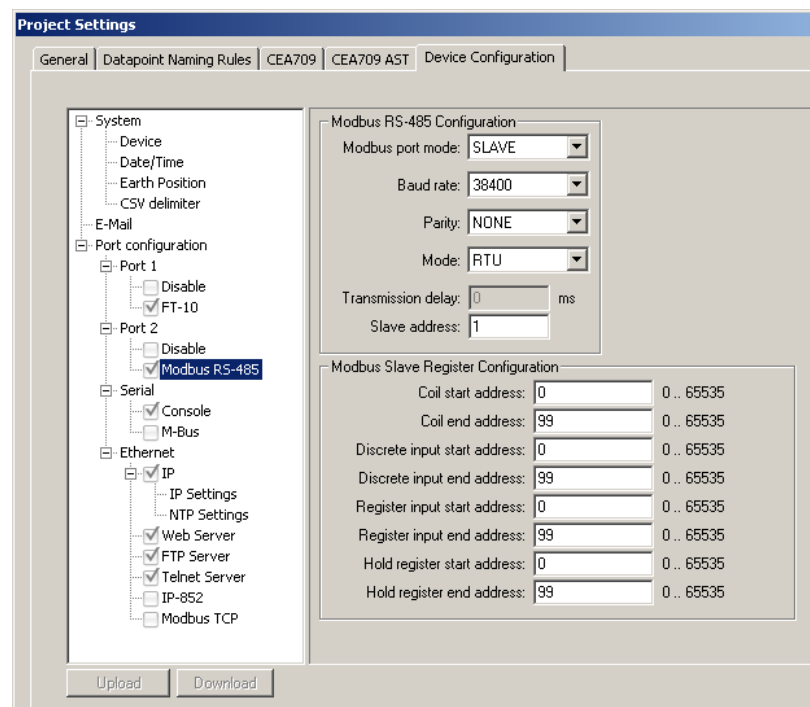

Figure 226: Project settings for Modbus.
2. In the **Device Config** tab enable the Modbus check boxes on the desired ports as shown in Figure 226. Setting the check box enables Modbus on that port. Edit the Modbus communication settings.